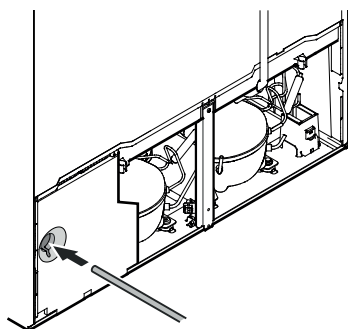

Figure 13
2. Insert the water supply line into its intended opening at the back of the appliance (Figure 13).